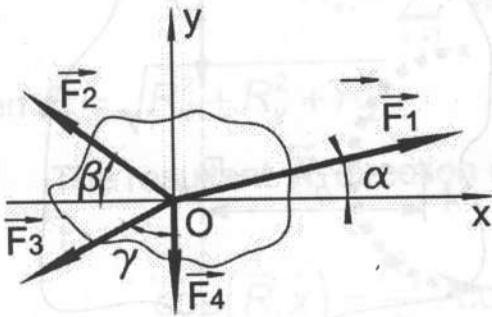

Fig. 1.8
**Coplanar force system:**  $F_1 = 1N$ ,  $F_2 = 2N$ ,  $F_3 = 3N$ ,  $F_4 = 4N$  act on the rigid body at point O (Fig. 1.8).